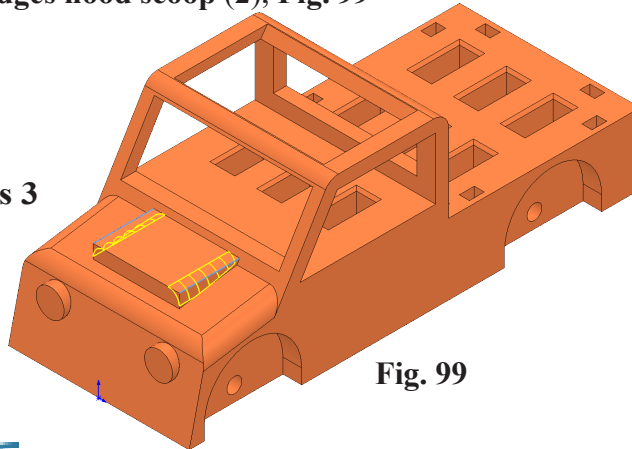

Fig. 99
click top edges hood scoop (2), Fig. 99